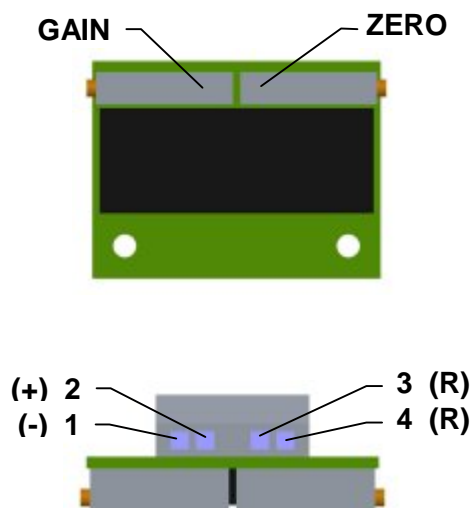

Fig.10
4.5.1 EPV – the 2-wire version (Fig. 10)
- Adjust the resistive transmitter according to the previous chapter. The resistance is to be metered on the terminals R-R (Fig. 10). The used transmitter resistance is 100 Ω .
- Turn the adjusting trimmer ZERO (Fig. 10) to adjust the output current signal rate measured on the terminals 81-82 to 4 mA.
- Turn the adjusting trimmer GAIN (Fig. 10) to adjust the output current signal rate measured on the terminals 81-82 to 20 mA.